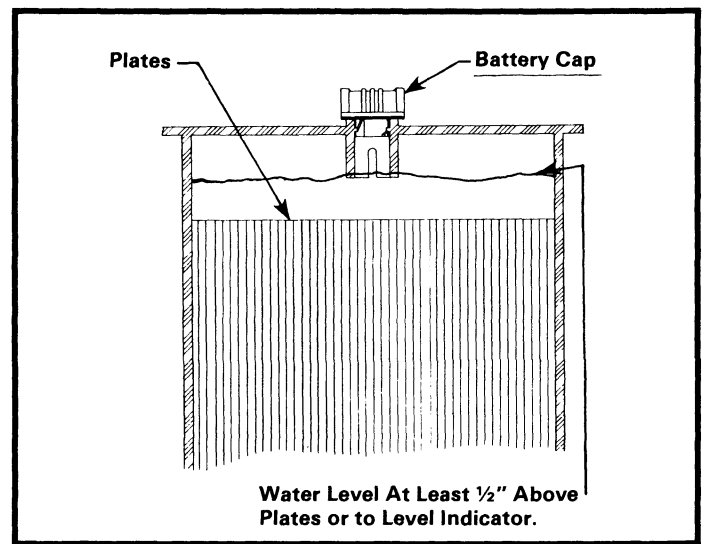

Figure 18
2. The water level in the batteries should be checked weekly (See Figure 18 for proper level). Add water only after charging unless the water level is below the top of the plates. In this case, add just enough water to cover the plates, charge and then check the level again. For best battery life, add only distilled water to the batteries.